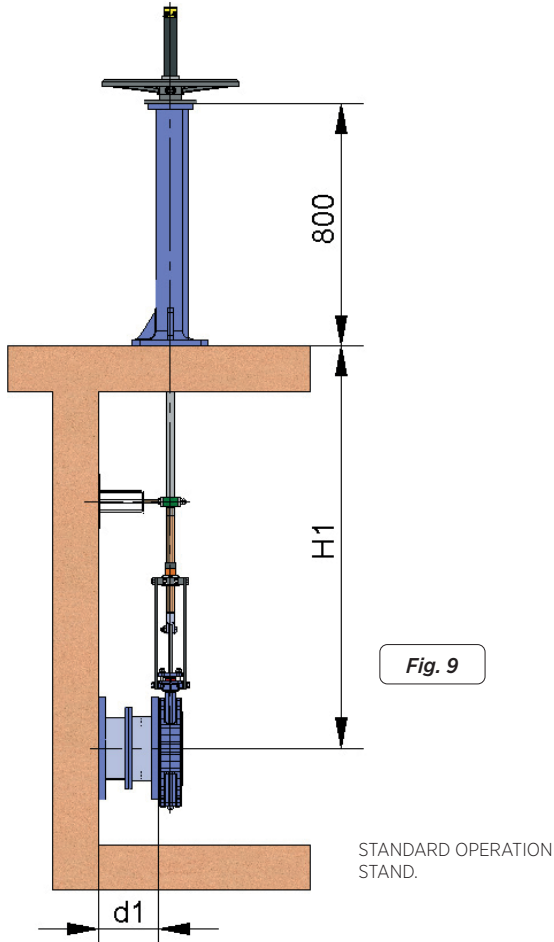

Fig. 9
- The standard floor stand is 800 mm high. (Fig.9)